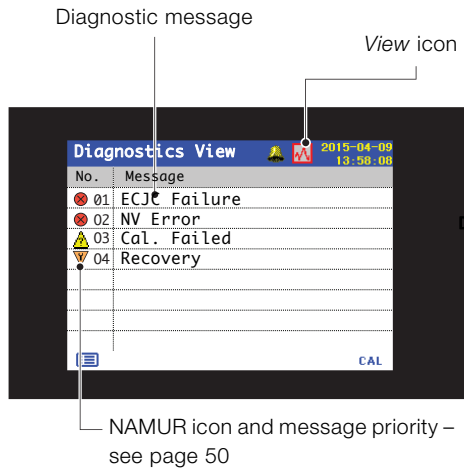

Fig. 8.6 Diagnostics view
- *Diagnostics view* – displays a list of active diagnostic messages identified by priority and message (see Fig. 8.6)
Example *Calibration Log* entries along with a description are shown in Table 8.2. Example *Audit Log* entries together with a description are shown in Table 8.3. The *Diagnostics Log* shows the history of diagnostic messages that have been displayed in the *Diagnostic View* – see Fig. 8.6, page 44.